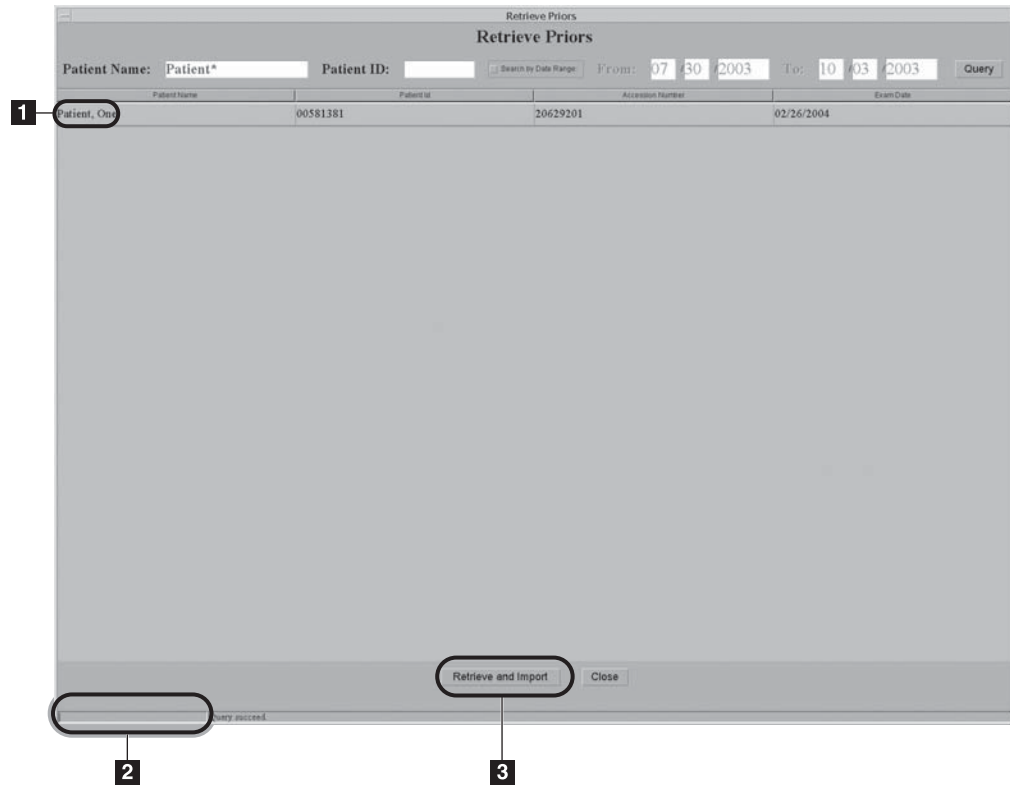

Figure 3-73: Results of the Retrieve Priors Query
3. After searching the PACS system, the program displays a list of all Patients meeting the query criteria (Figure 3-73 #1). The progress bar on the lower left (Figure 3-73 #2) indicates the system is busy searching.
5. Click **Retrieve and Import** (Figure 3-73 #3). The PACS system locates the Images and imports them into the Acquisition Workstation Local Database. A dialog box appears and the progress bar indicates the status of the import.
Legend for Figure 3-73